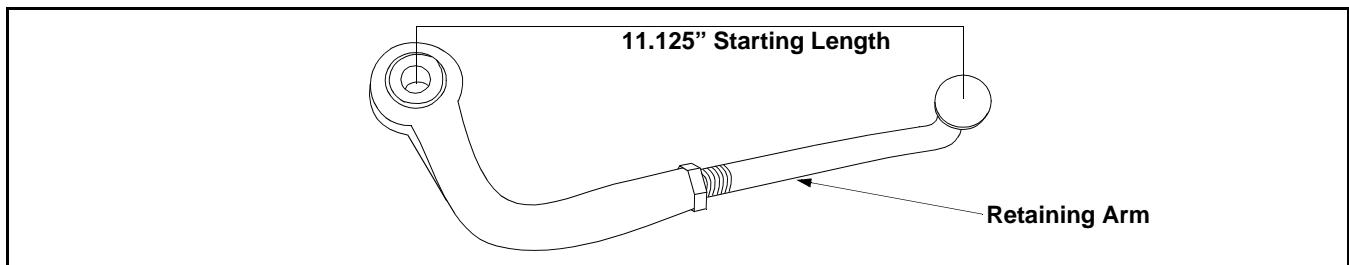

Figure 22
Note: If after a number of attempts to level the mower deck fails to succeed, adjust the retaining arm to their original lengths of 11.125 inches. (See Figure 22)
- Shorten the distance shown on Figure 22 by turning the 90 degree rod one complete turn in. (Repeat if same result)
- Lengthen the distance shown on Figure 22 by turning the 90 degree rod one complete turn out. (Repeat if same result)